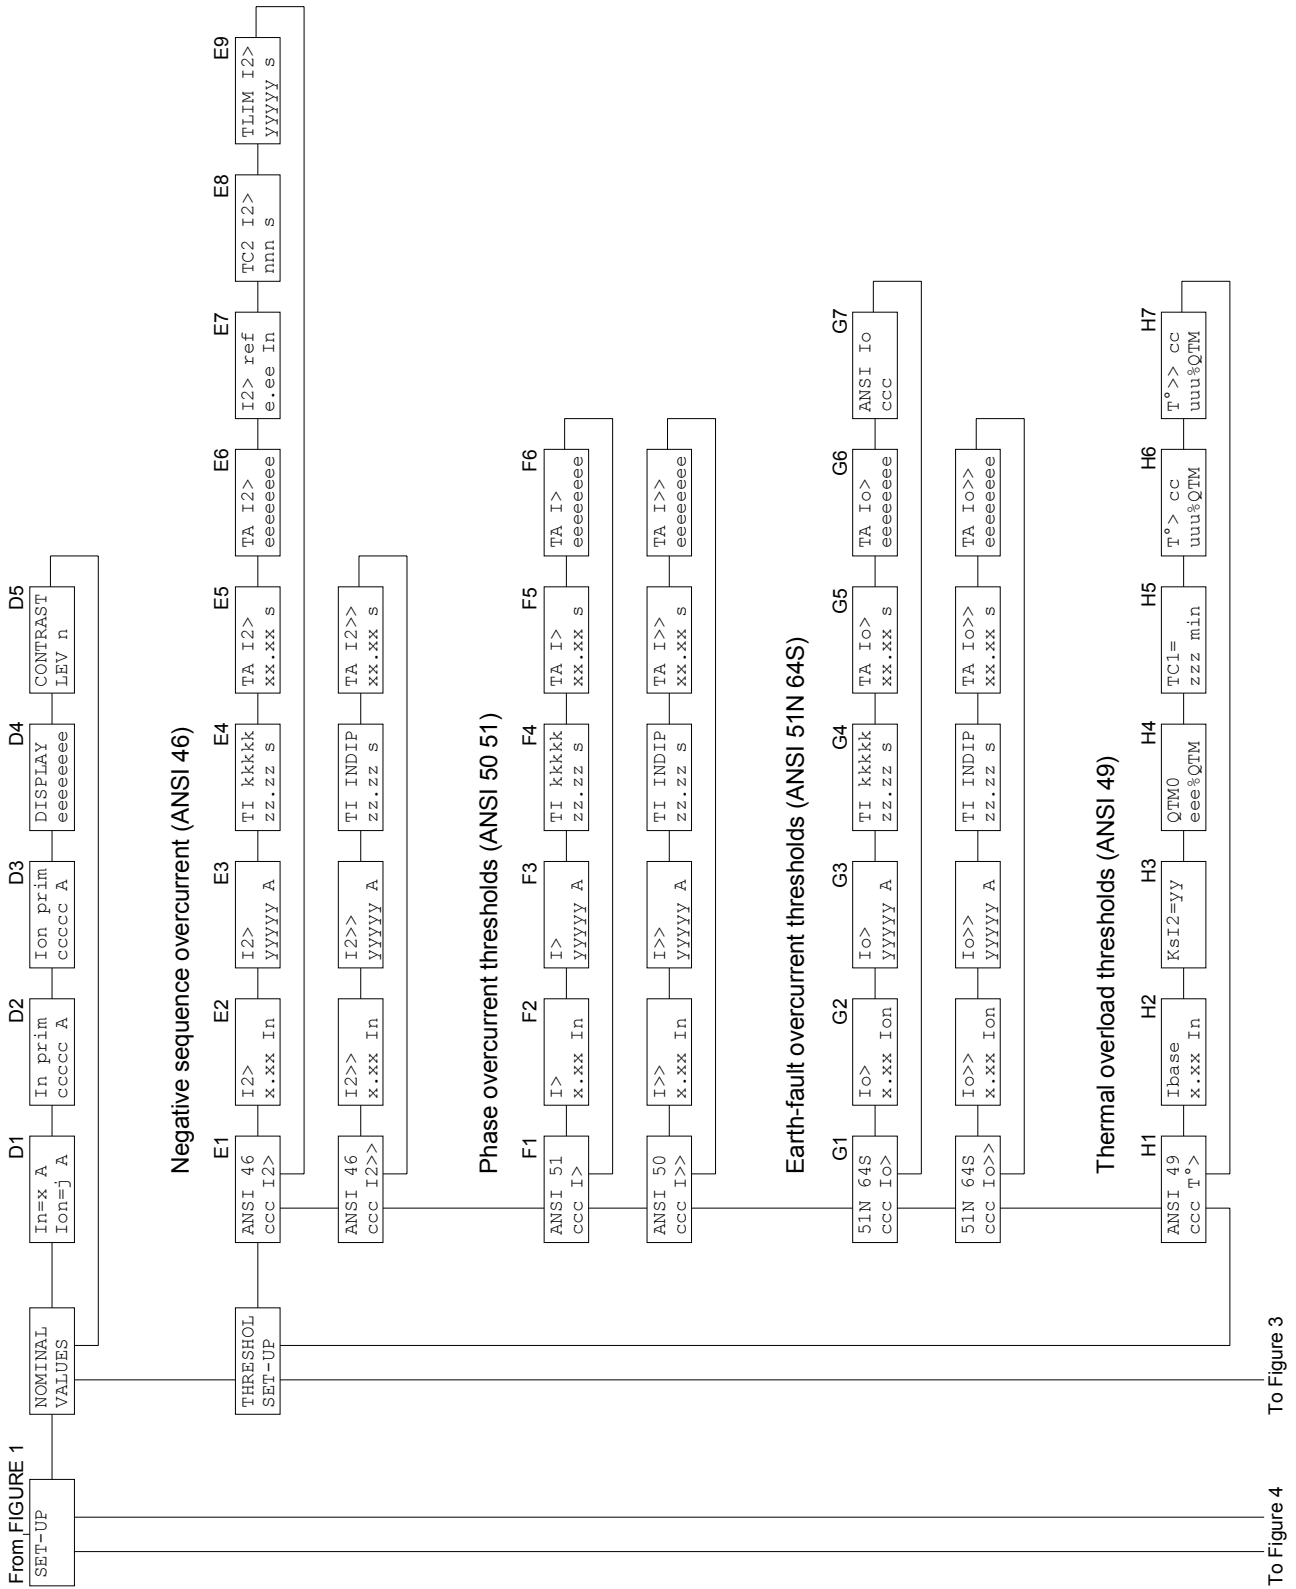

Figure 2
- 5) **CONFIRM** the new protection relay set-up at the visualization CONFIRM PROG? (Fig. 2, ref. J1) within 5 minutes depressing the push-buttons [ENTER] and  up to visualize **YES** and [ENTER] again to confirm.
When the output relays test is selected (Fig. 2, ref. L10) it is possible to command an output relay (one at the time) to trip from the current status allowing functional tests on electrical plants.
**5.5 Nominal values set-up (fig. 2)****D1 - NOMINAL CURRENT SELECTION In (programmable)**